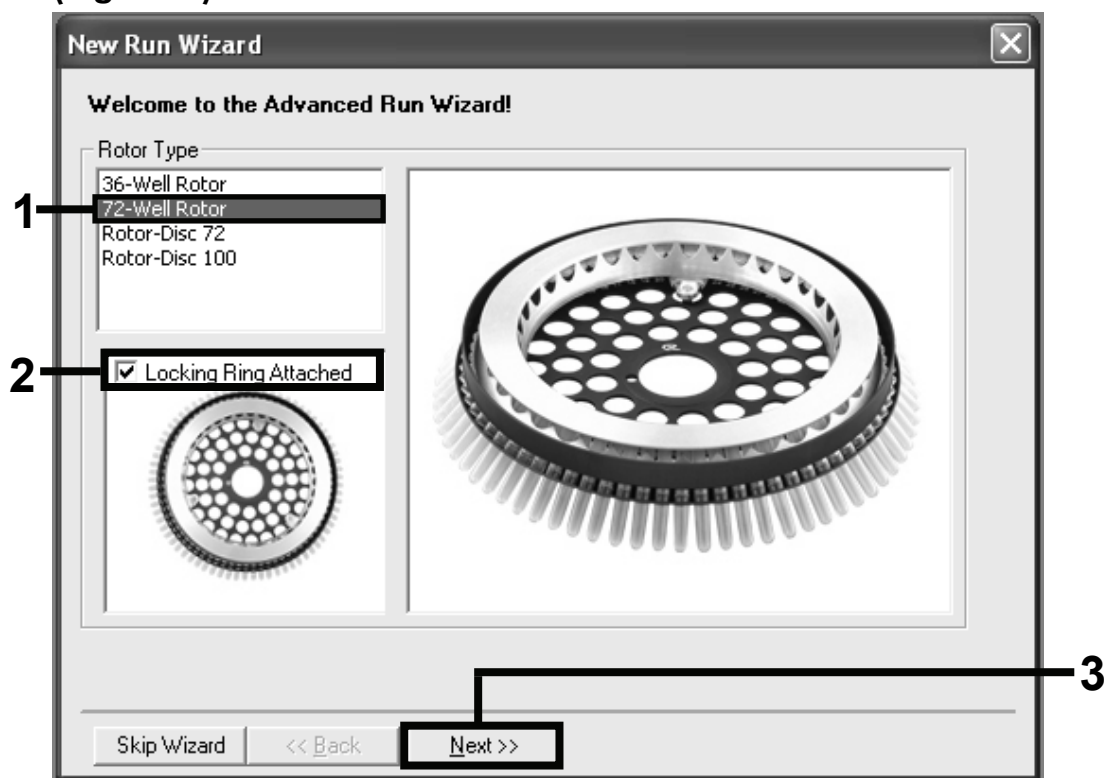

Figure 1. The “New Run Wizard” dialog box.
Setting the general assay parameters	Figures 1, 2, 3
10. Select *72-Well Rotor* as the rotor type. Check that the locking ring is attached. Check the “Locking Ring Attached” box and click “Next” (Figure 1).